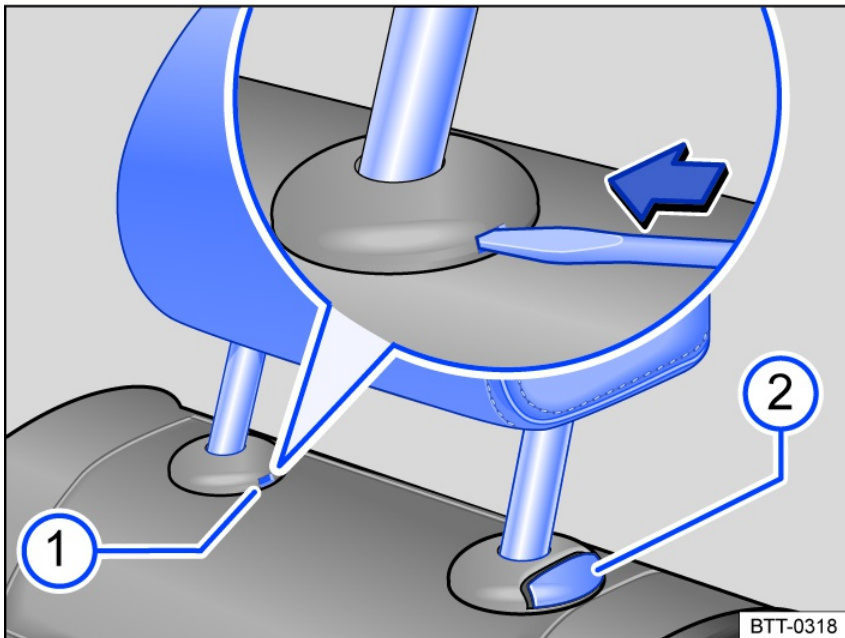

Fig. 69 Rear head restraint: removing.
3. Push the flat edge of a screwdriver into the slot of the cap fig. 69 in the direction of the arrow, and hold in this position.
4. At the same time, press the button fig. 69 while a second person pulls the head restraint all the way out.
3. Push the head restraint downward while pressing the fig. 69 button.